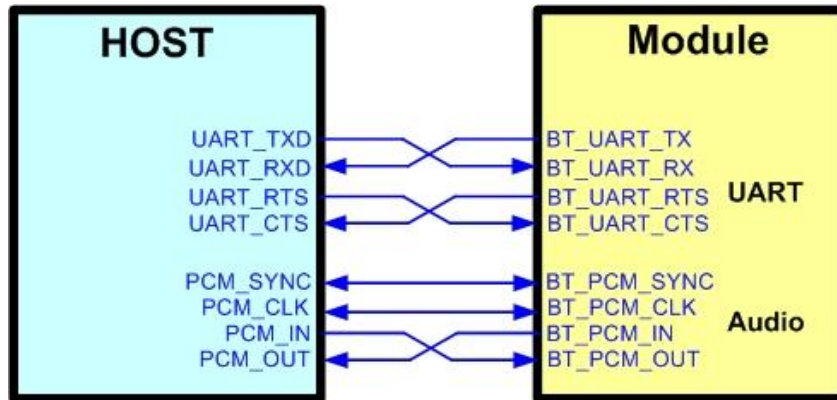

Figure4. Bluetooth verification connection interface to Host UART
- ❖ Refer to Figure4 UART pin definition connects the J1 interface of AP6356SDXX evaluation board to Host UART control interface.